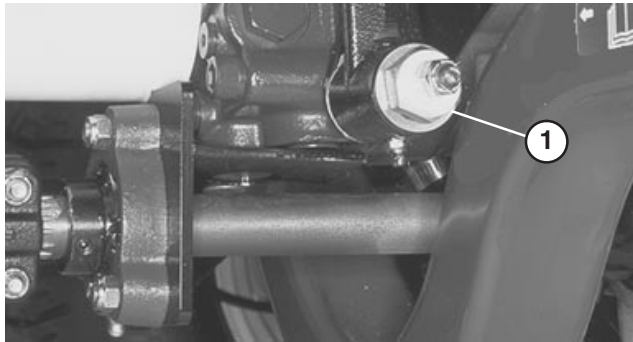

Figure 63
3. Under right side of machine, loosen locknut on traction adjustment cam (Fig. 63).